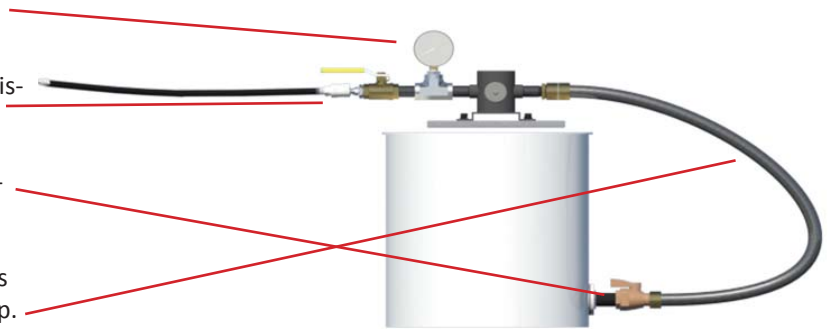

Figure 7
a. Hand-Drill-Powered Equalization Assembly (see Figure 7)